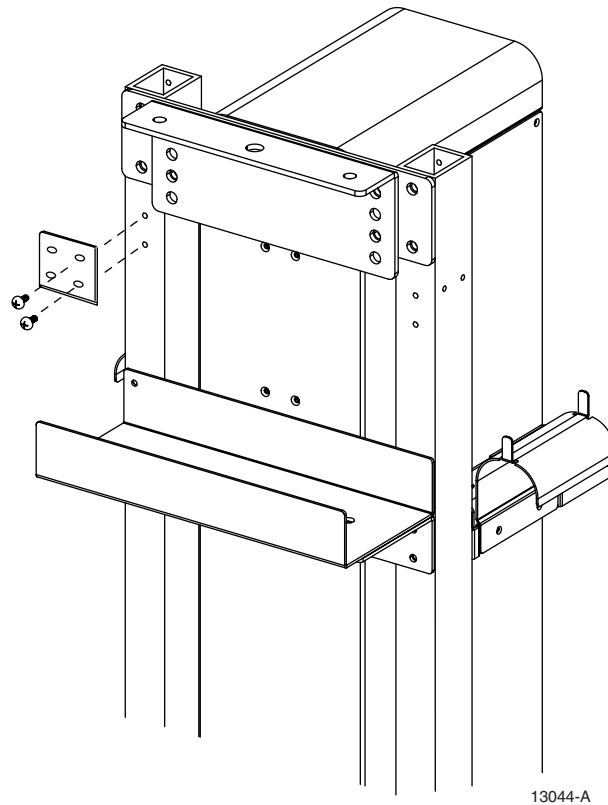
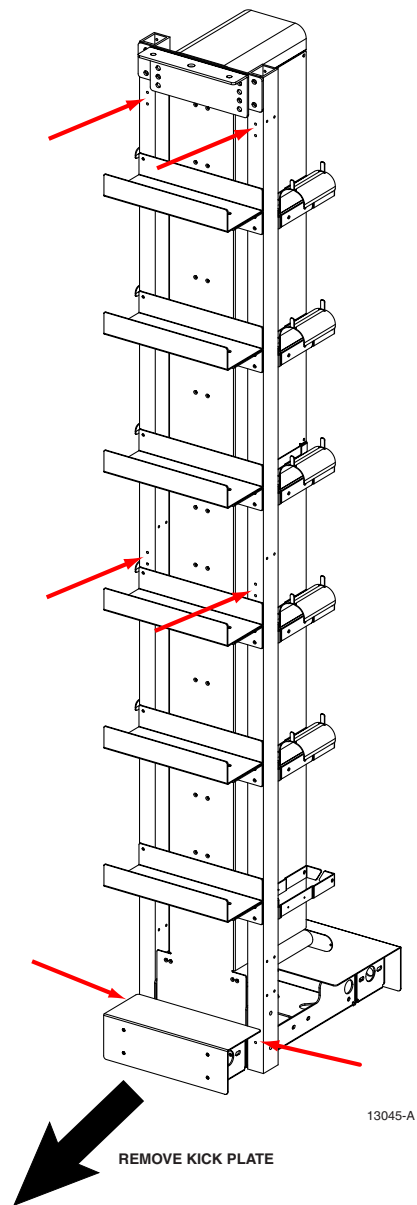

Figure 2. Securing a Junction Plate/Spacer Bracket
Figure 3. Junction Plate Mounting Hole Locations
1. Align the holes in the junction plate/spacer bracket with the mounting holes in the storage bay (Figure 2) and attach using two (2) #12-24 screws (provided). Repeat this step for each of the three sets of holes on this side of the bay. The mounting hole locations are shown in Figure 3.
3. Position the storage bay so that the empty holes in the junction plates are aligned with the mounting holes in the frame. Attach using two (2) #12-24 screws (provided) for each of the junction plates.